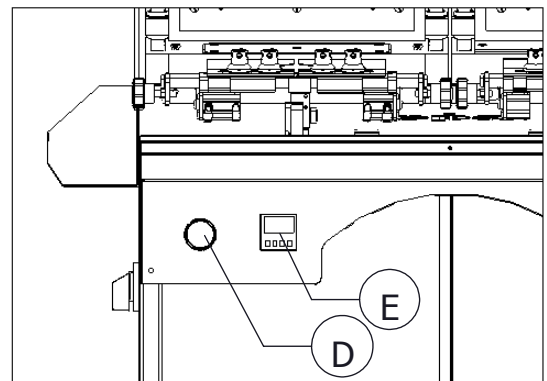

Figure.9
- Control air pressure.(Figure.9 D)
- Control the adjusted heat.(Figure.9 E)
- Control that adjusted heat is hot enough.(Figure.9 E)